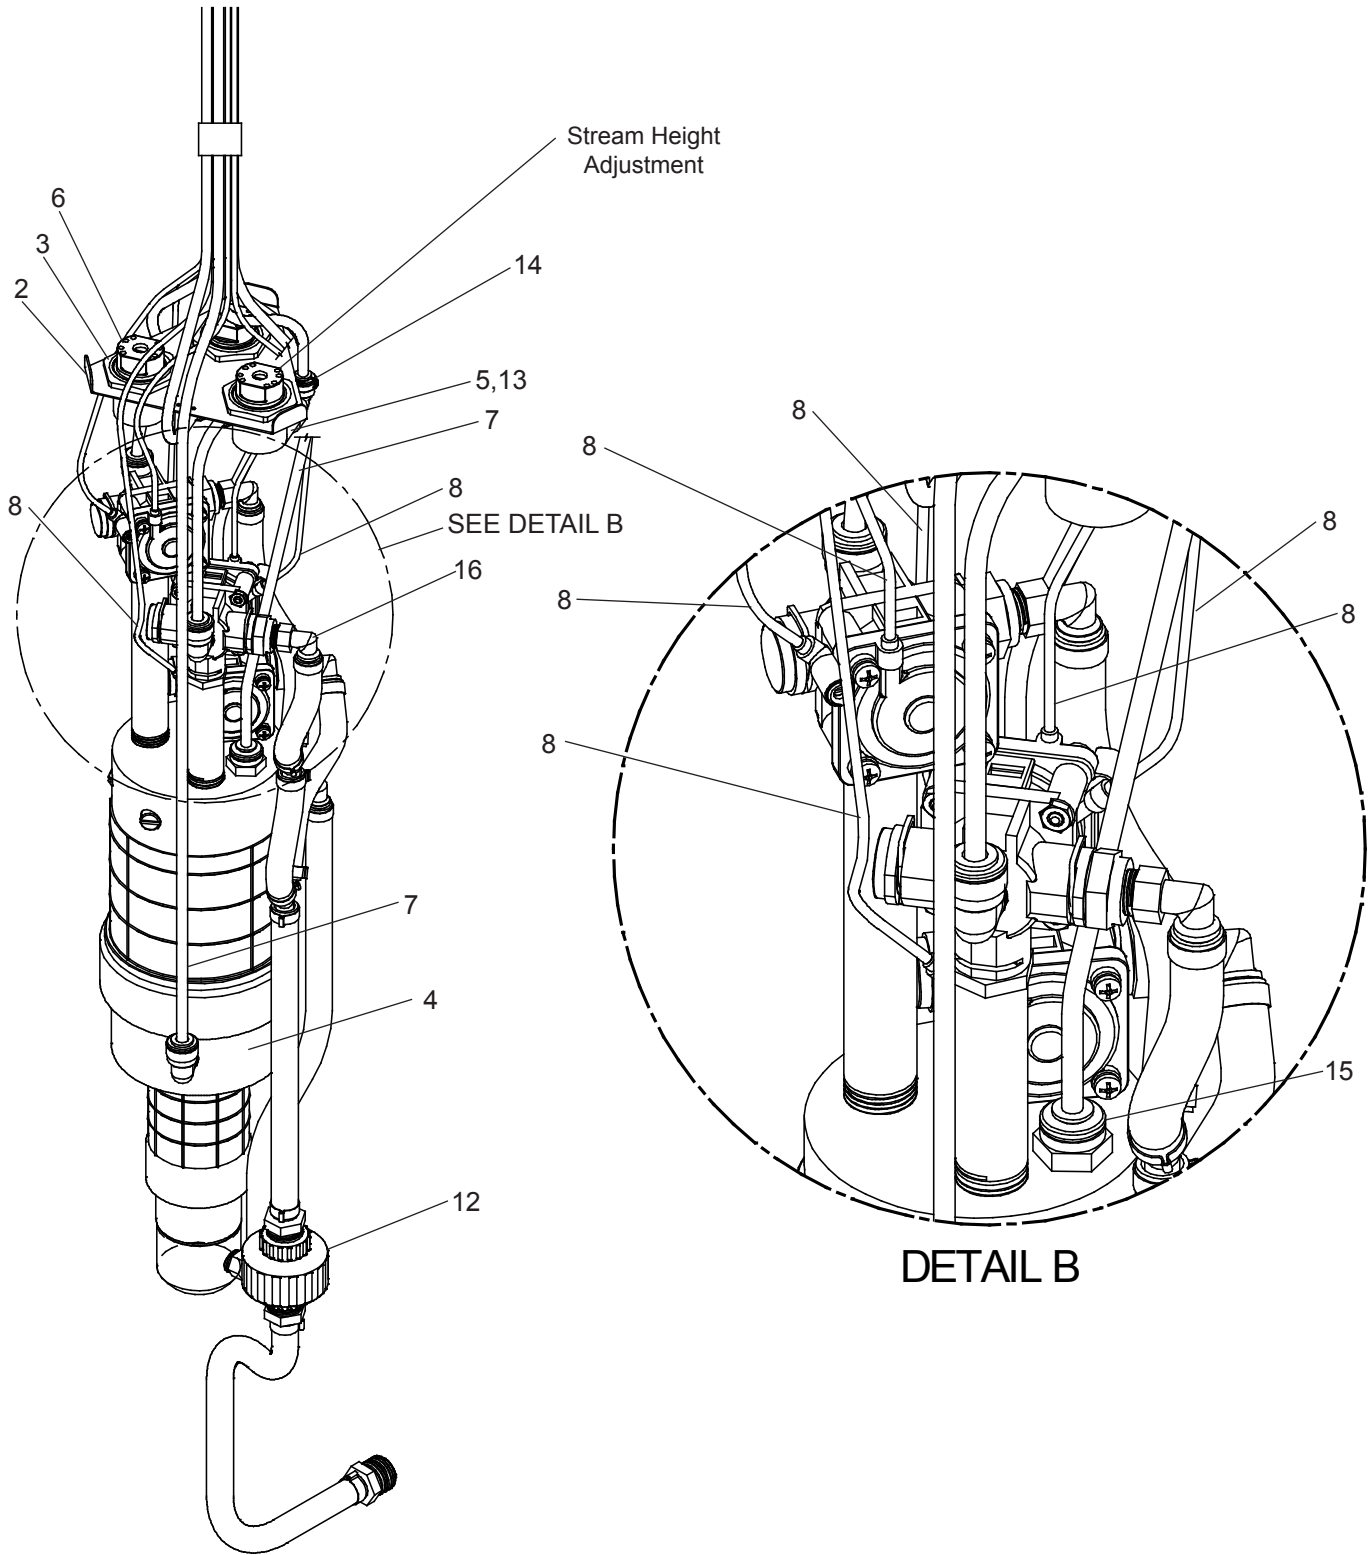

FIG. 6
- Remove the valve assembly from the PVC column by carefully pulling up on the strap and connecting tubing at the same time. Check stream height from the bubbler. Stream height is factory set at 35 PSI. If supply pressure varies greatly from this, adjust the screw on the regulator (Item 13, Fig. 6, Page 8). Clockwise adjustment will raise stream and counter-clockwise adjustment will lower stream. For best adjustment stream height should be approximately 1-1/2" (38mm) above the bubbler guard. Replace the valve into the PVC column. Make sure the supply hose coils into the bottom of the PVC column without any kinks and double check that the valve is positioned fully at the bottom of the PVC column.